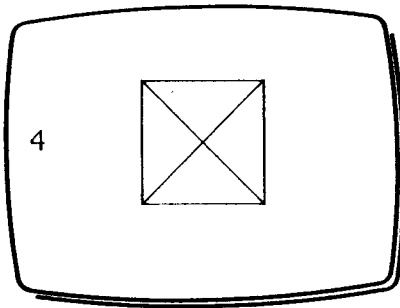

Fig 4
- 3 Alter the drawing as in Fig 4.